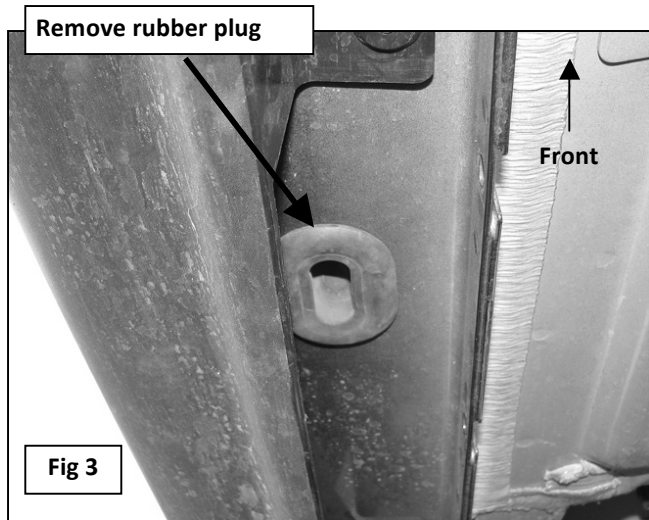

Fig 3
2. Starting at the passenger side front, locate the 3 pairs of (2) small holes in the pinch weld, **(Figures 1 & 2)**. Remove the rubber plug filling the oval hole in the bottom of the rocker panel directly in front of the (2) holes, **(Figure 3)**. Select (1) 12mm Bolt Plate and (1) 12mm Plastic Retainer, **(Figure 4A)**. Thread the Retainer part way onto the Bolt Plate. **NOTE:** The Retainer will help hold the Bolt Plate in position during Bracket installation. Insert the Bolt Plate into the hole and rotate 90-degrees to the slot, **(Figures 4B & 5)**. Thread the Retainer down until it is tight against the sheet metal.